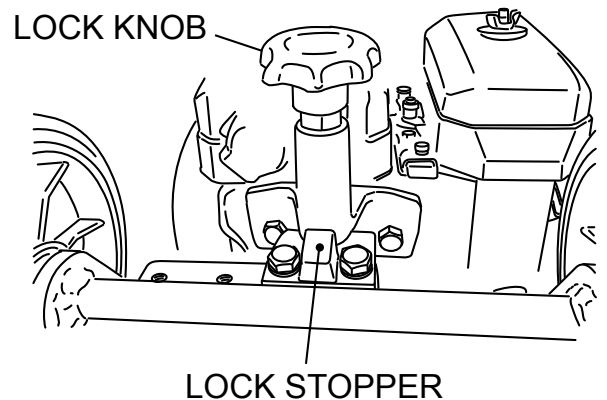

Figure 15. Locking Axle
4. After the lock pin stopper touches the lock pin, the lock pin moves up, and once it fits into the stopper hole, it moves down automatically. Turn until the lock pin is set to locked position (Figure 15).